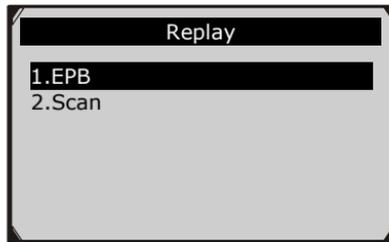

Figure 4-1
- 1) Use the **LEFT/RIGHT** scroll button to select **Playback** from **Main Screen** (Figure 3-2), and press the **OK** button. Wait for the **Scan** screen to appear. (Figure 4-1)